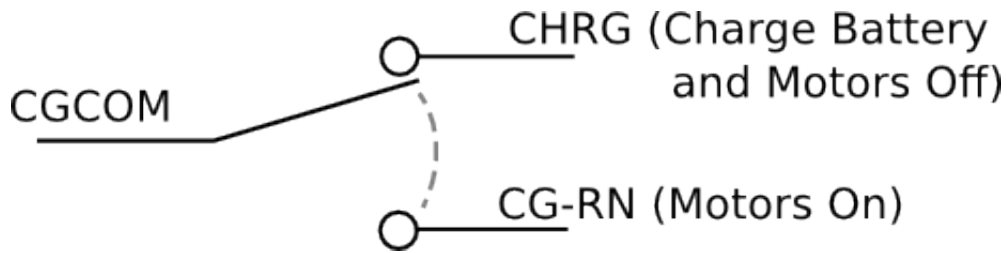

Figure 2.12 – Illustration of Charge/Run switch
Now insert the (orange) USB Memory Stick into USB port of the Slug labelled as ‘Disk 2’ (right-most USB port in Figure 2.12).
- Connect CGCOM to CHRG and CG-RN via the white single pole double throw switch (see Figure 2.12). In Charge mode (CGCOM connected to CHRG) the battery is charged and the motors are off. In Run mode (CGCOM connected to CG-RN) the motors are powered and battery stops charging. The electronics can operate in both of these modes, so that you can develop your robot whilst it is charging.